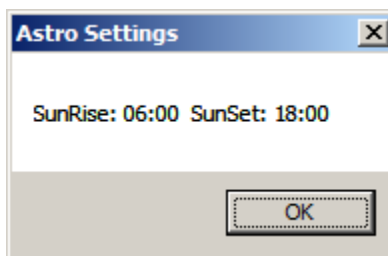

Figure 4.2 Astro Settings
1. From the InSite menu bar, select Tools, and then Sunrise Sunset. A window will open as shown in figure 4.2 with today's sunrise and sunset times.